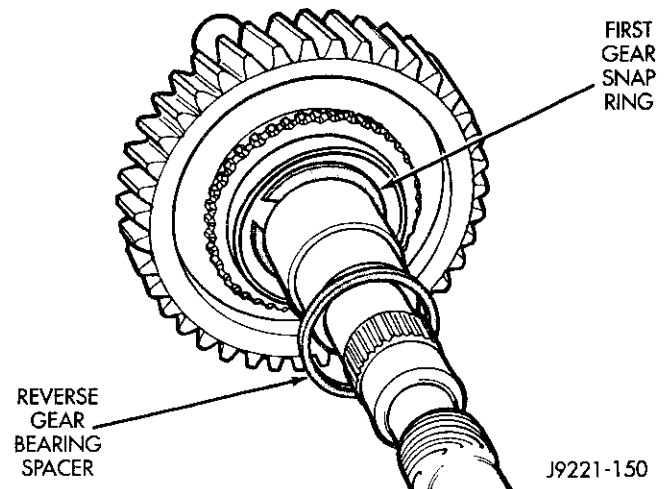

Fig. 71 Reverse Gear Bearing Spacer And First Gear Snap Ring Removal
(29) Remove reverse gear bearing spacer from mainshaft (Fig. 71).
(30) Remove first gear snap ring (Fig. 71). Tension of this snap ring is considerable. Heavy duty snap ring pliers will be required to spread the ring far enough to remove it.